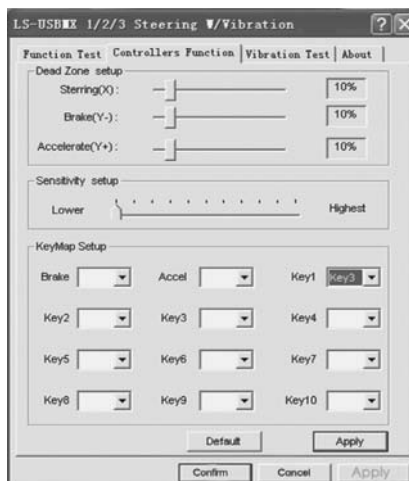

Fig. 8
- Choose Controllers to set axes and buttons (Fig. 8).
- Dead Zone setup: controller will not respond to a slight touch of acceleration pedal (Accelerate Y+), or brake pedal (Brake Y-), or turns of the wheel (Steering X), therefore necessary adjustments should be made by cursors (Fig. 8);
- Sensitivity setup: the higher sensitivity is, the swifter and more efficient response of controller to pressing of pedals and turns of the wheel will be, therefore necessary adjustments within Lower to Higher range should be made by cursors (Fig. 8);
- KeyMap Setup reprograms functional keys: there should be chosen new necessary assignment against the key designation (Fig. 8);
- After installation of the driver, the controller can be automatically centered by pressing MODE button ⑩.